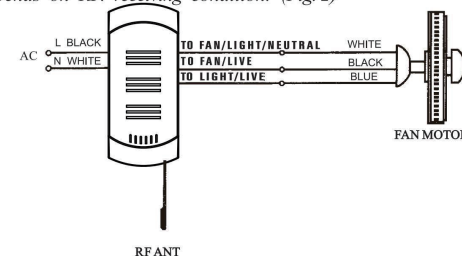
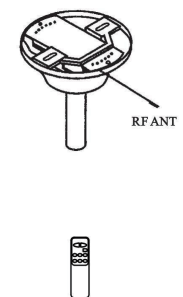

Fig. 1.1
Fig. 2
3. Make the wiring connection as shown in Fig. 1.1 and 1.2. RF sensor must be stuck outside canopy. Its position depends on RF receiving condition. (Fig. 2)